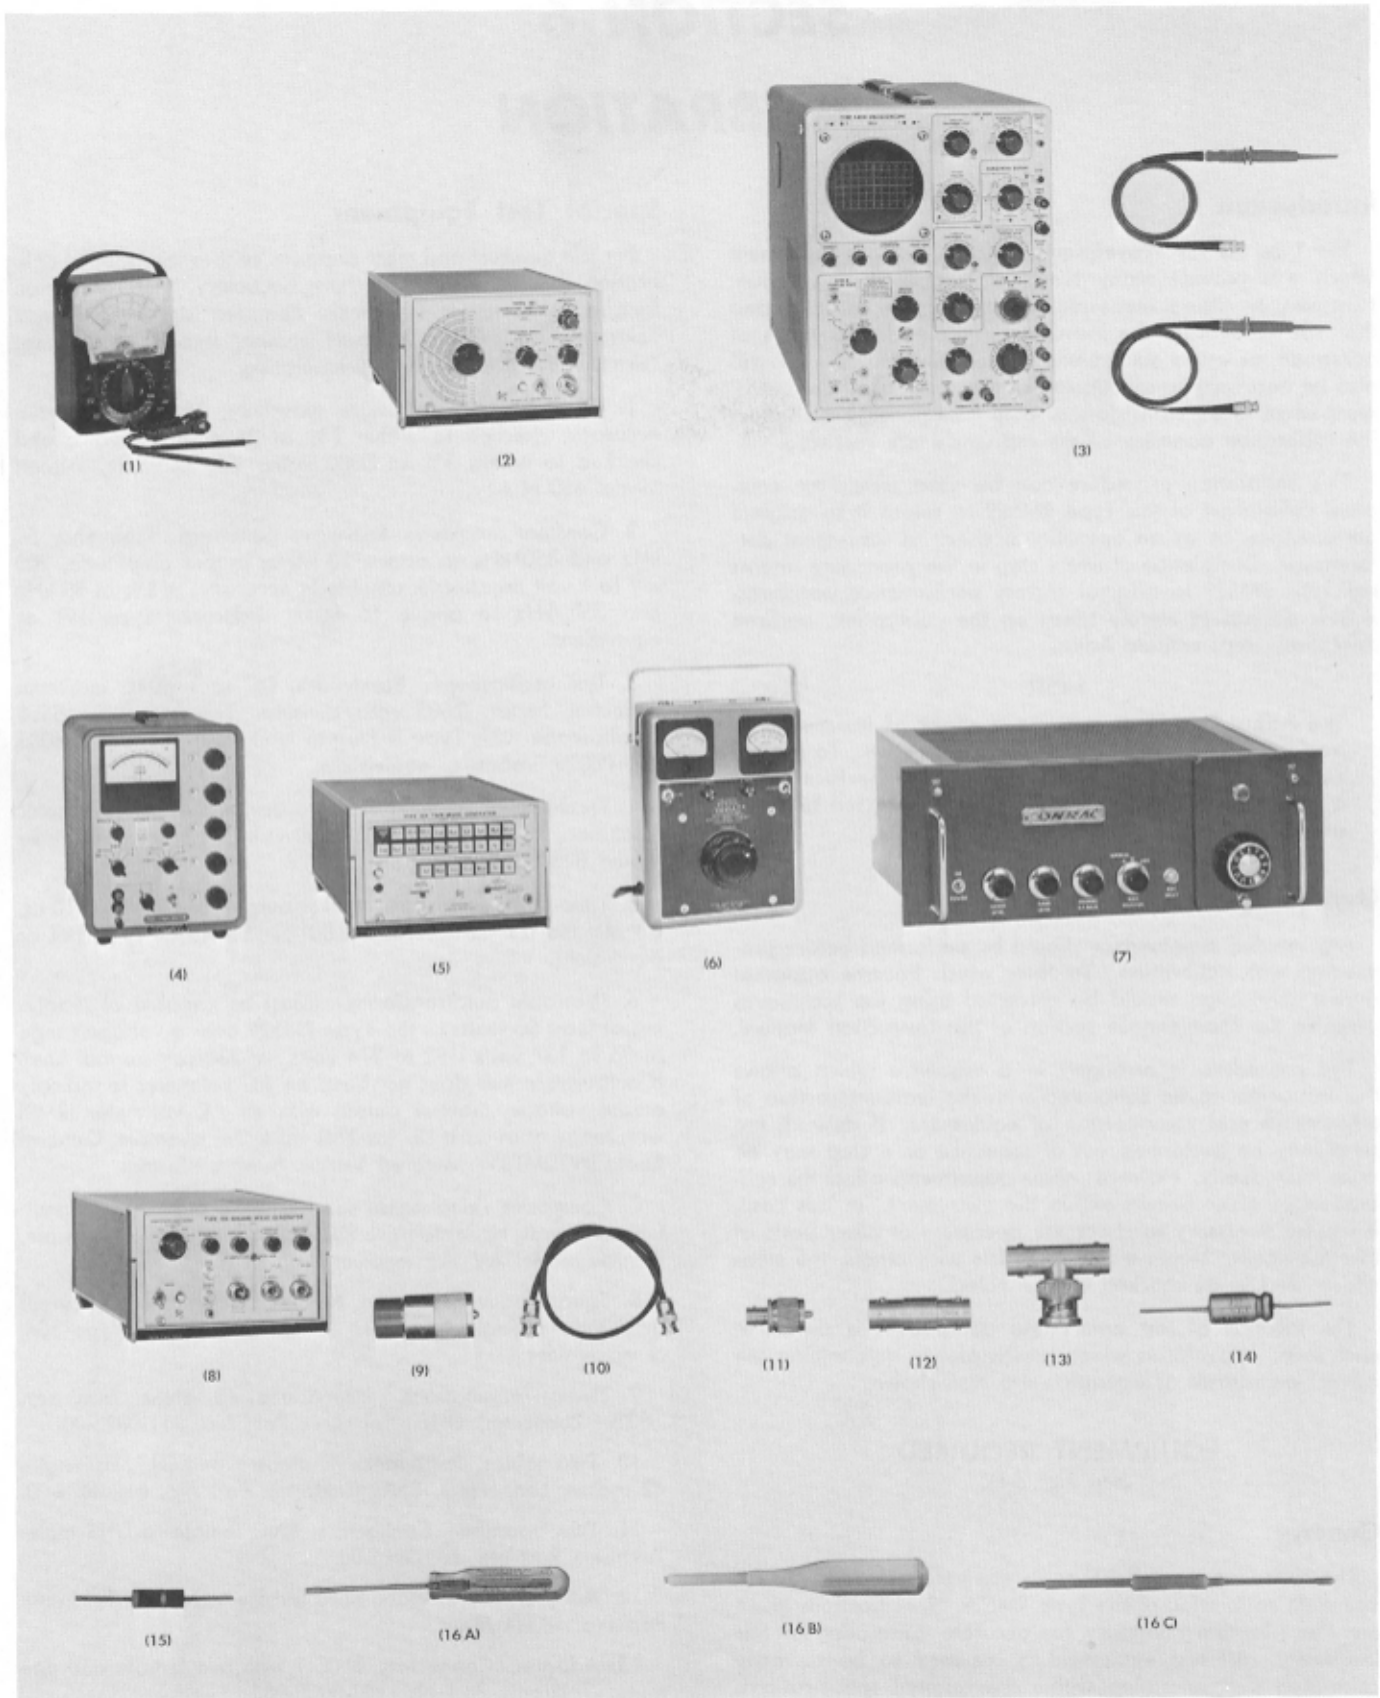

Fig. 6-1. Recommended calibration equipment.
(see Fig. 6-1)
16. Adjustment tools (see Fig. 6-1).